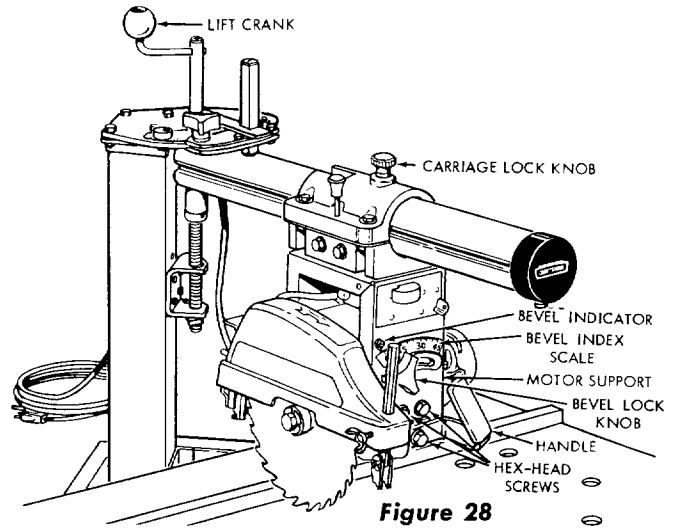

Figure 28
- a. Loosen the carriage lock knob (if not loosened already) and move the carriage rearward until the saw blade is just forward of the fence. Tighten the carriage lock knob. (See figure 28.)
- b. In order to make sure the 0° bevel setting is against its stop, loosen the bevel lock knob (figure 28), grasp the handle and rotate it clockwise until it stops. Tighten the bevel lock knob.
- (1) Loosen three hex-head screws (figure 28) just enough to permit the motor to slip on the yoke.
- (3) Tighten the three hex-head screws. (See figure 28.)
- (5) Check the bevel indicator (figure 28) which should be aligned with the 0° mark on bevel index scale. If not, loosen the indicator attaching screw, adjust the indicator and tighten the screw.